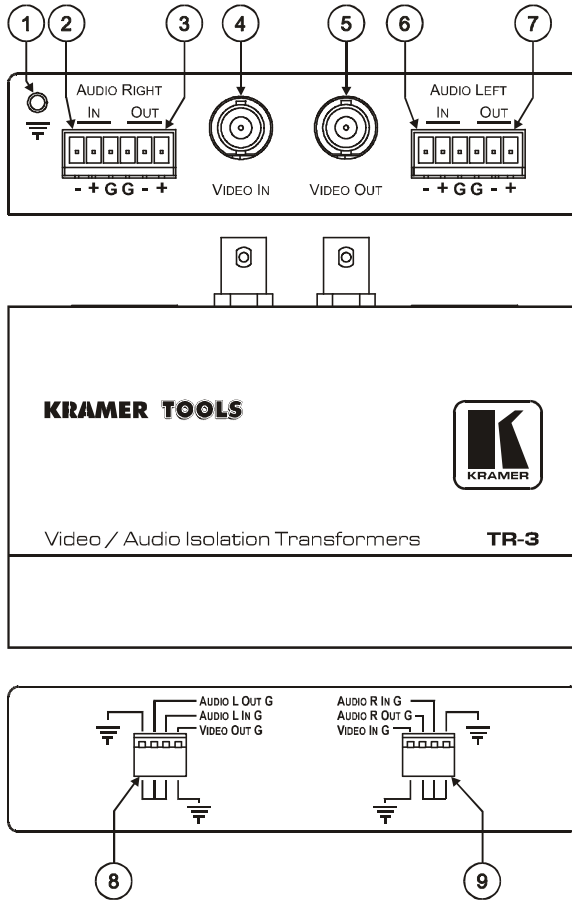

Figure 4: TR-3 Video / Audio Isolation Transformers
- Figure 4 and Table 5 define the **TR-3 Video / Audio Isolation Transformers**